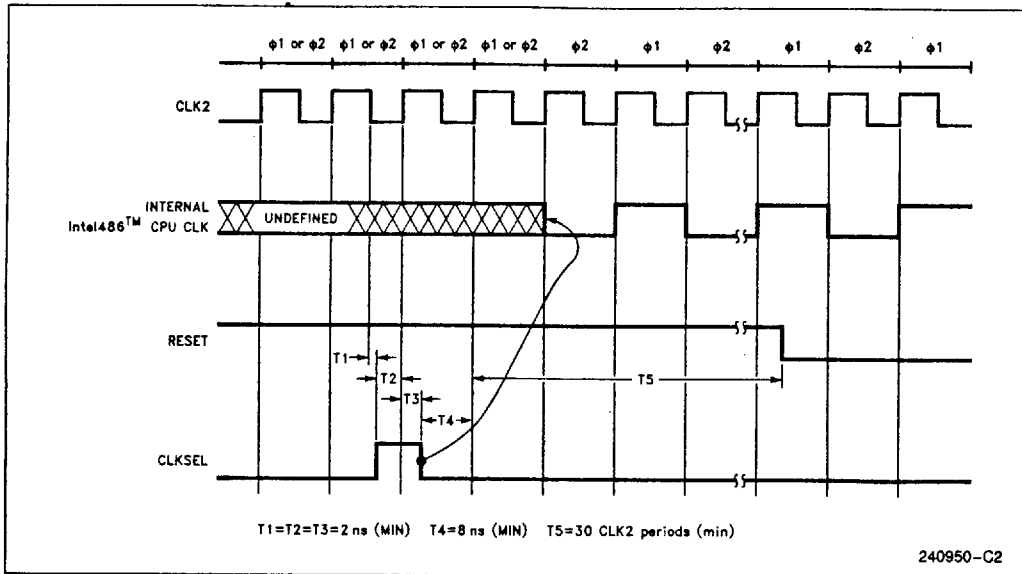

Figure 16.6. CLKSEL Timing Definition during Power-Up Reset
Figure 16.6 shows the detailed timing definition of this pulse. The pulse on CLKSEL pin is only required during power-up reset. During all other times including warm resets the CLKSEL pin should be driven low and must be free of spikes or glitches. After the power-up reset, the system must track the phase of CLK2 at all times including during warm resets so that the input/output signals can be sampled at the appropriate clock edge. The phase relationship is described in the next section.
Refer to Figure 16-6 for exact timings of the CLKSEL pulse.
1. Frequency can be changed at least 8 clocks after satisfying  $t_4$  (see Figure 16.6). The system can be started at a lower frequency and after satisfying the CLKSEL pulse specifications, it can be operated at the required speed.